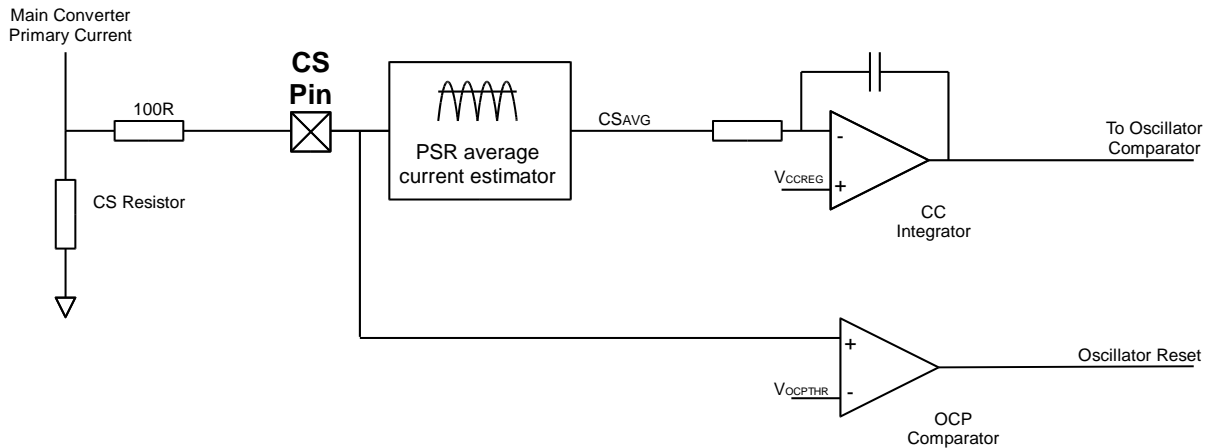

Figure 7: RED2541 Current protection and control circuits
Current regulation is used during pullup and during overload conditions. Figure 7 shows the two current control methods used in the converter:
Shown in figure 7 the signal from the CS pin is divided into two different paths. The bottom path provides peak instantaneous over-current protection (OCP) while the PSR Average Current estimation block provides the current regulation (CC) information. The voltage on the CS pin is an AC signal biased around GND. Inside the PSR block this signal is processed to provide a voltage proportional to the average converter output current.
The CC regulation circuit is shown in Figure 7. CC operation is defined by an internally compensated